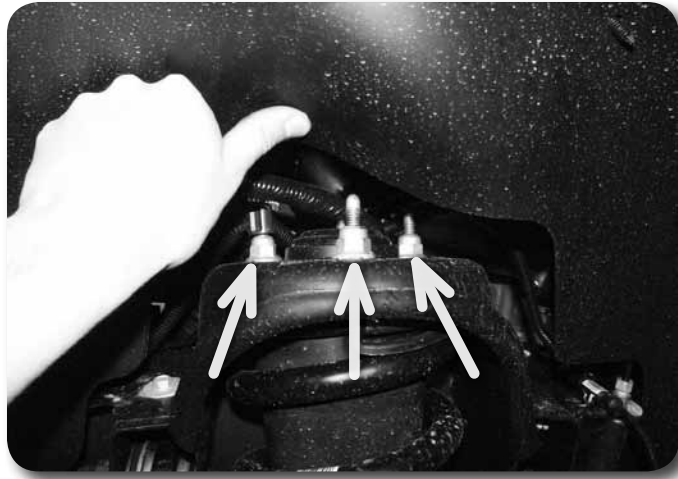

Figure 10
17. Remove the three upper strut mounting nuts **Figure 10** and remove the strut from the vehicle. DO NOT remove the center strut rod nut, it is under extreme pressure. Save nuts.